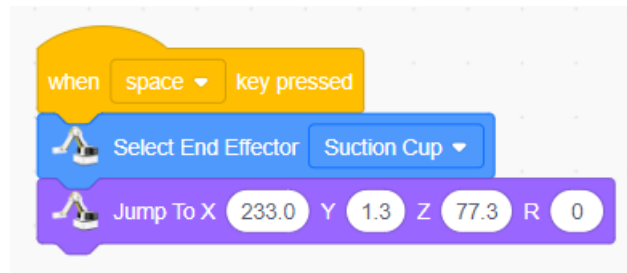

Figure 3.9 Initialization
Step 3: Select "When space key pressed" to trigger the program to run, select "Select End Effector Suction Cup" to set the initial position of the end of the robotic arm, as shown in Figure 3.9.